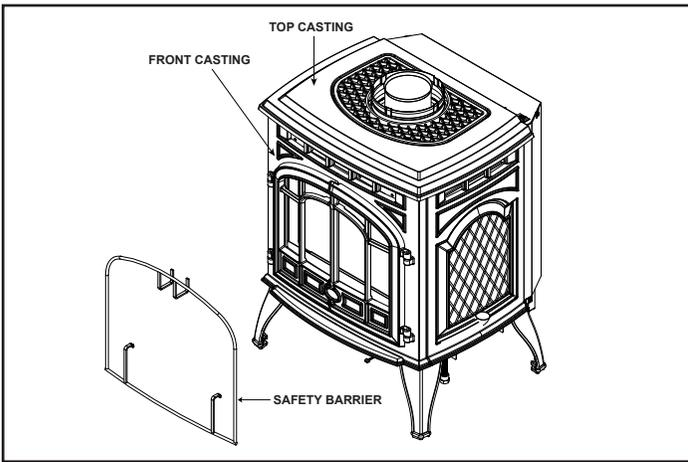

Figure 6.11 - Remove Casting
- Remove front casting. See Figure 6.11.